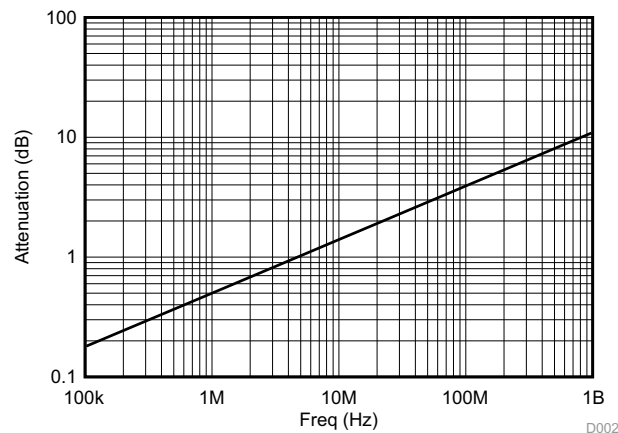
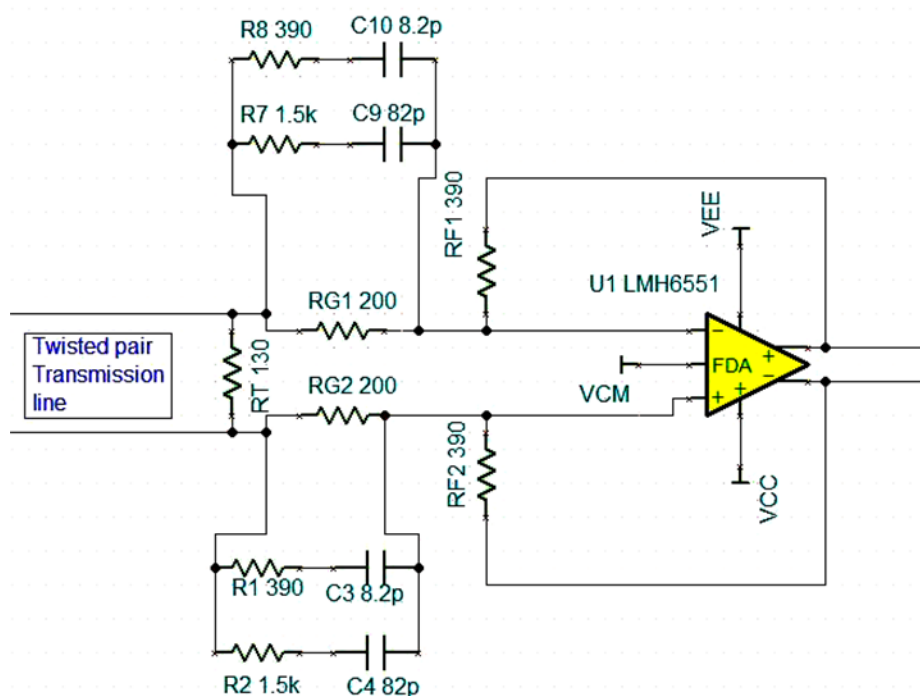
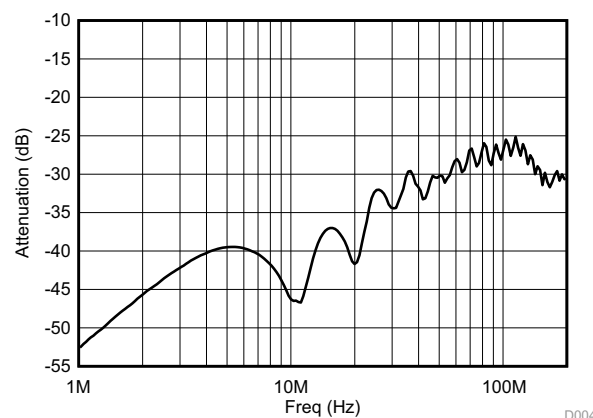

Figure 7. CAT5 Cable (33 ft) Attenuation vs Frequency
Figure 9. Equalizing CAT5 Cable Receiver
Figure 12. Measured FDA CM Rejection
All copper transmission lines suffer from high-frequency attenuation which can be remedied with equalization. A typical attenuation profile for CAT5 cable is shown Figure 7. The attenuation (dB) values of Figure 7 for any length L(ft) (see [References \[4\]](#)) is scaled by the factor:
One method that can be taken to design the values of the equalizer components is to follow the approach in the Analog Wire post: *Cable equalization 101 – Automating your design (Part 1)*, see [References \[5\]](#). This method uses a spreadsheet to ease the determination of the interacting poles and zeroes introduced by the RC elements in order to exactly cancel out the known attenuation curve of the transmission line. That is what was done to come up with the schematic shown in Figure 9 for 33 ft of the cable shown in Figure 7.
Furthermore, the FDA equalizer has some built-in immunity to Common-Mode (CM) noise rejection. Figure 12 shows the measured rejection of CM noise provided by the circuit of Figure 9, when constructed with standard 1% resistor and 10% capacitor values, stays better than 25 dB up to 200 MHz. As expected, the CM rejection of the receiver is relatively high at DC and low frequency and degrades at higher frequencies due to the CMR degradation of the active device.